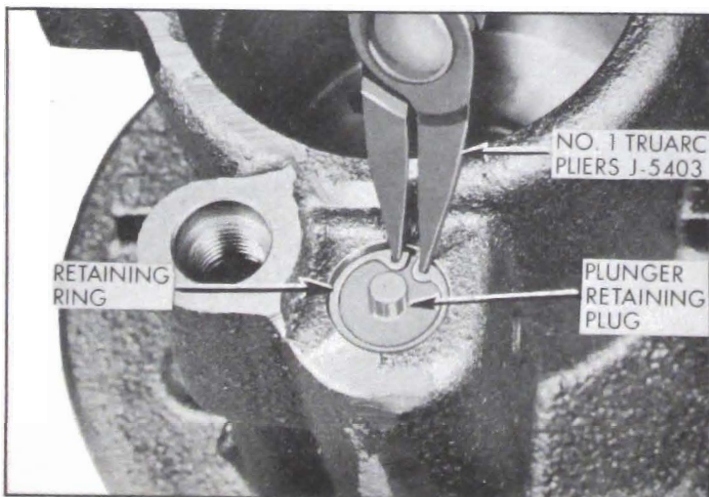

Figure 8-57—Removing Plunger Plug Retaining Ring
12. Remove plunger retaining plug ring using No. 1 Truarc Pliers J-5403 and remover plug. See Figure 8-57. Remove O-ring on plug and discard.